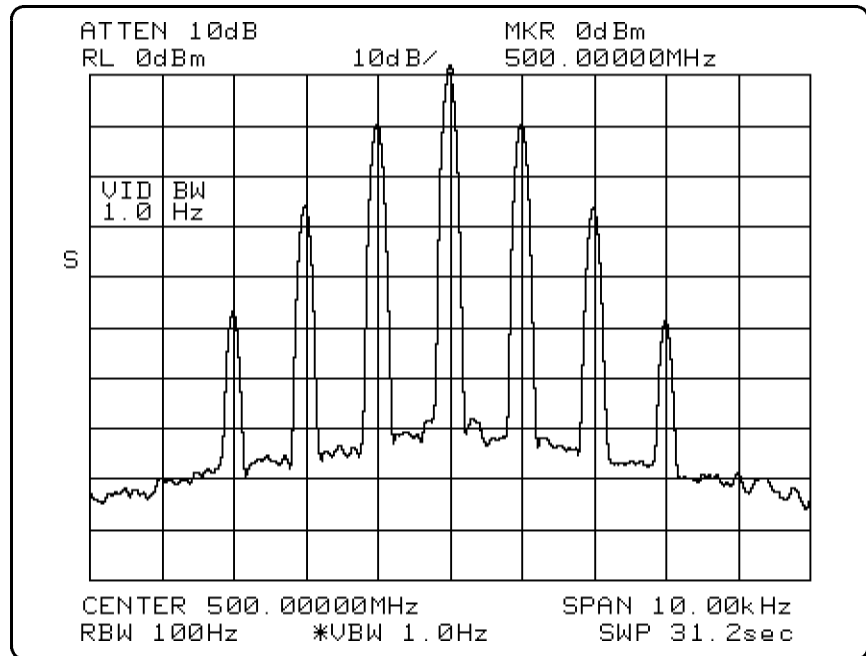

Figure 2-16.
2. Set the signal source to generate an FM signal whose frequencies and power levels are within the frequency and power handling capabilities of the spectrum analyzer. Figure 2-16 shows an example of a typical spectrum analyzer display of a discrete sidebands measurement.